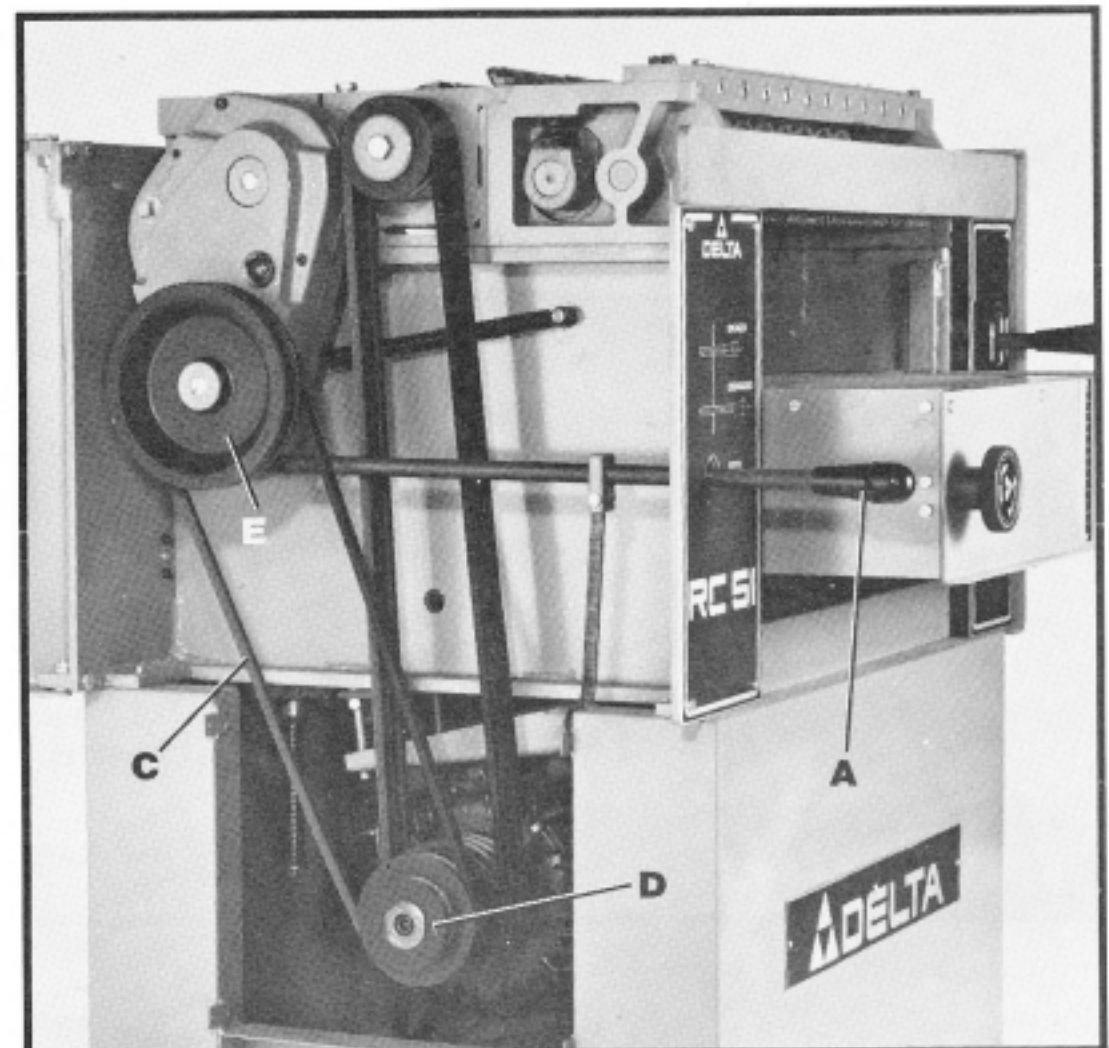

Fig. 15
To change feed roll speeds, make sure the feed roll engagement lever (A) Fig. 15, is disengaged (in the out position) and open the left side door of the machine. When belt (C) Fig. 15, is on the smallest step of motor pulley (D) and the largest step of gearbox pulley (E) the feed roll speed will be 16 feet per minute on single phase machines and 25 feet per minute on three phase machines. When belt (C) is on the largest step of motor pulley (D) and the smallest step of gearbox pulley (E) the feed roll speed will be 28 feet per minute on single phase machines and 46 feet per minute on three phase machines.